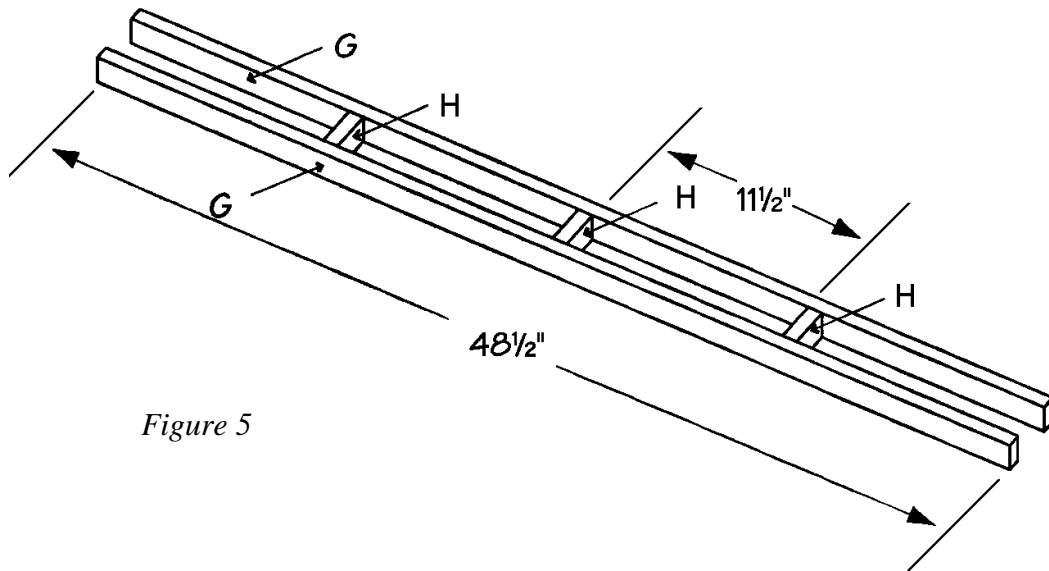

Figure 5
1. Cut two lower supports (G) from 1 x 2 pine, each measuring 48-1/2" long.
2. Cut three spacers (H) from 1 x 2 pine, each measuring 2-1/4" long.
3. Place the two lower supports (G) on a level surface, parallel to each other, and 2-1/2" apart. Fit the three spacers (H) evenly between the two lower supports, just over 11-1/2" apart, as shown in *Figure 5*.
4. Nail through the two lower supports (G) into the ends of the spacers (H). Use two 1-1/2"-long nails on each joint.
5. Fit the assembled lower support between the two leg braces (F), centering it on the braces. Screw through the leg braces (F) into the ends of the two lower supports (G). Use two 2-1/2"-long screws on each joint.